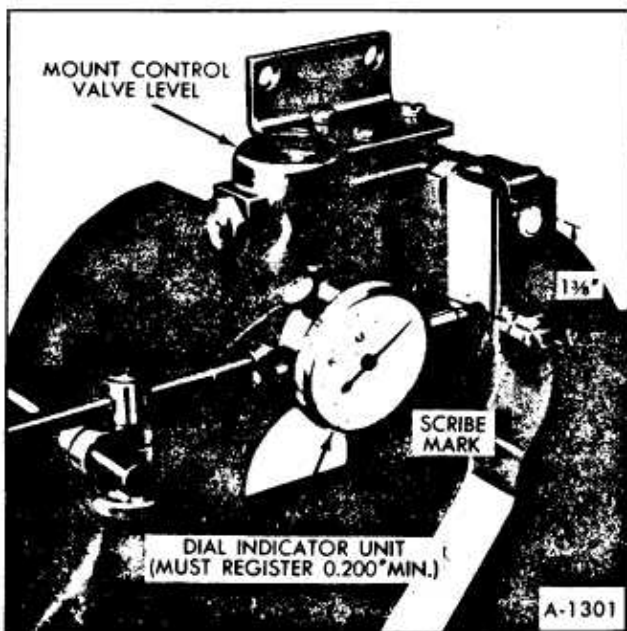
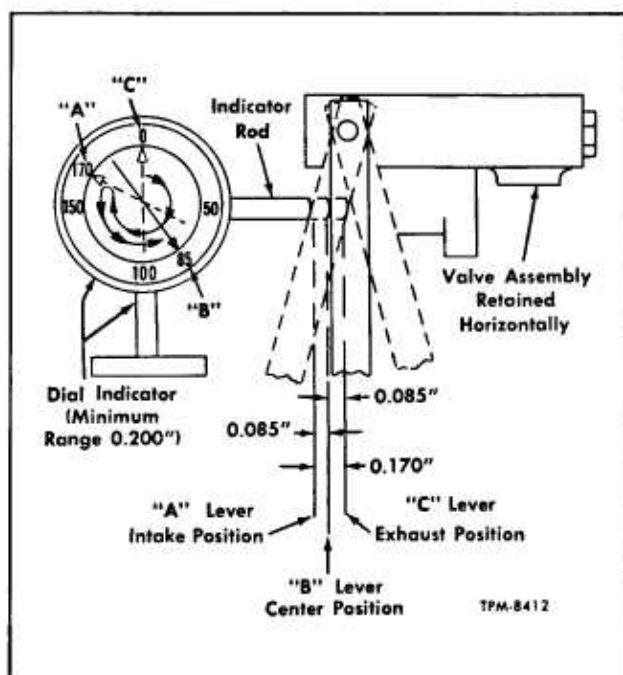

Figure 31—Dial Indicator Properly Installed
Figure 32—Locating Valve Overtravel Lever Center Position
4. Referring to Figure 31, scribe a line 1-3/8 inch from plug end of overtravel lever control body.
8. Locate dial indicator in position as shown in Figure 31. Move overtravel lever to full air exhaust position - TOP OF DELAY PISTON FLUSH WITH TOP OF BORE - without overtraveling (position "C," figure 32). Relocate indicator push rod to just contact 1-3/8-inch mark on control body and reset indicator dial to zero (0) at this point (position "C", figure 32).
9. Move overtravel lever to full air intake position without overtraveling (position "A", figure 32) (delay piston at bottom of bore). Take indicator reading which may vary from 0.160" to 0.190".
11. Divide the total travel dimension by two (example: $0.170" \div 2 = 0.085"$), then move overtravel lever back this amount (0.085") to the center (position "B," figure 32).